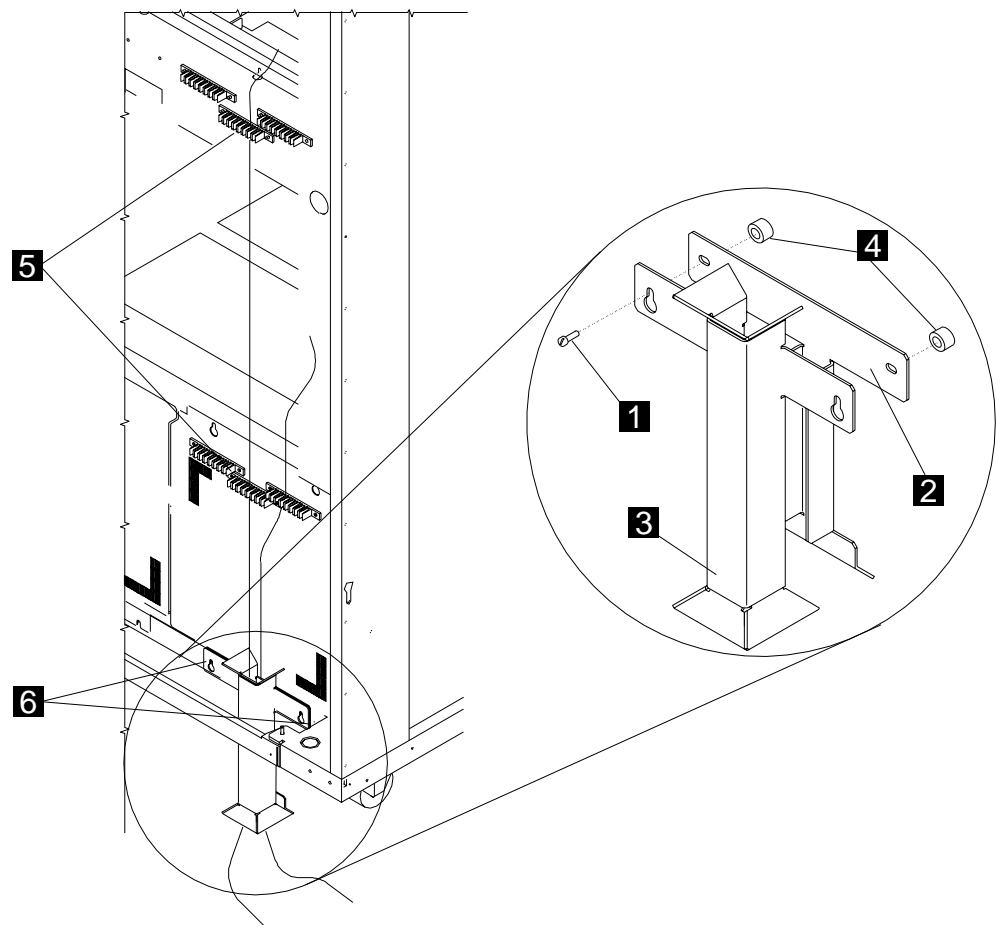

Figure 4-4. Routing the Optical Fibers
- If you have a bracket **2** with PN 58G5503 and the guide **3** with PN 58G5504 (see Figure 4-4) install as follows:
- Step b. ___ **Install** the two spacers **4** (PN 58G5711) and the bracket **2** (PN 58G5503) using two screws **1** (PN 1621214) See Figure 4-4